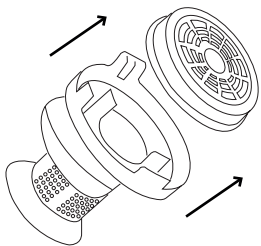

Fig.10
- At the bottom of the brush you have to press the button to unpin the brush. (Fig.10).